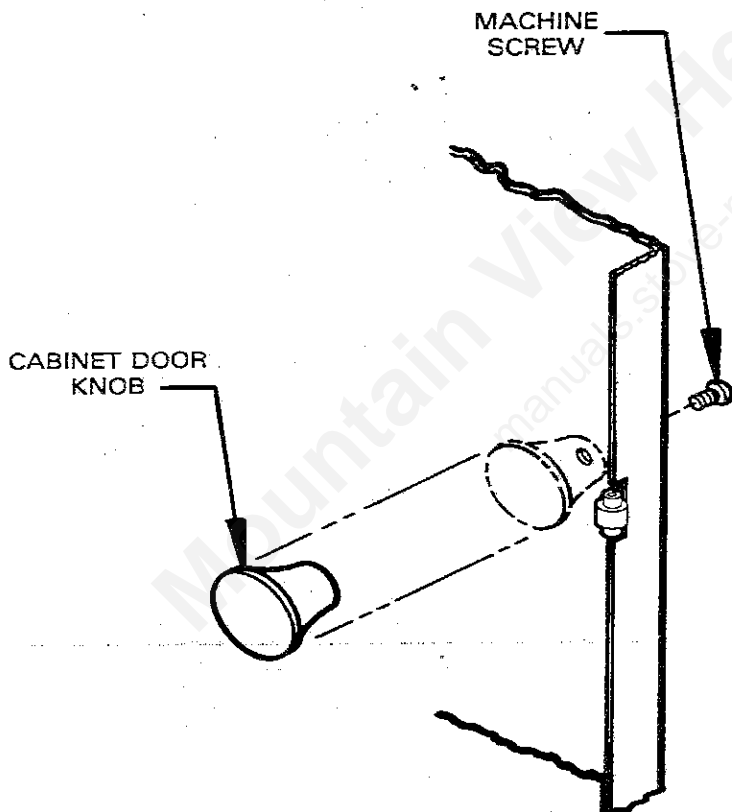

FIG. 29
- 1) Remove the machine screw and door knob (Fig. 29).